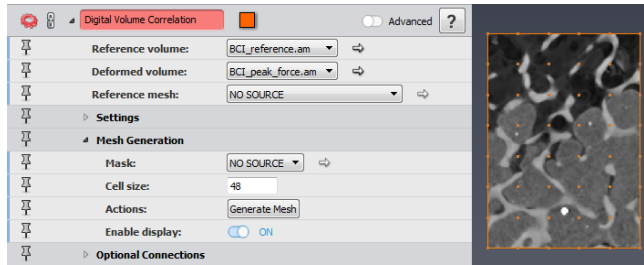

Figure 23.10: Generate a Tetrahedral Grid (yellow points represent the nodes of the mesh to create).
4. Generate a tetrahedral grid using the *Mesh Generation* section. Set the *Cell size* to 48 and turn on the *Enable Display* port to see the nodes of the mesh (see Figure 23.10). Click *Generate Mesh* to create the mesh.